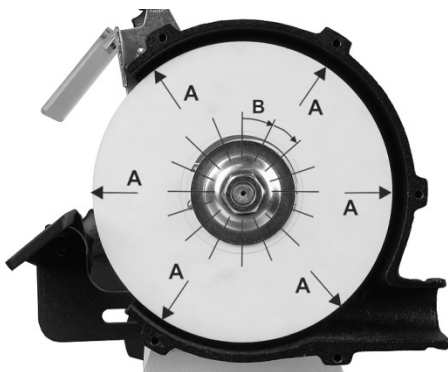

Figure 6: Wheel Balancing
If the outside face is not rotating concentric to arbor, try shifting the wheel closer to arbor centerline before tightening the nut. See A, Figure 6.
2. If wobble still exists, continue repeating step 1, rotating outer flange incrementally in the same direction. See B, Figure 6. Make sure to keep the wheel in the same position each time.